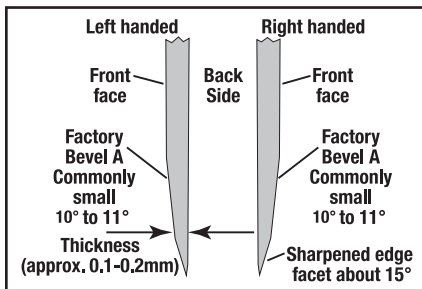
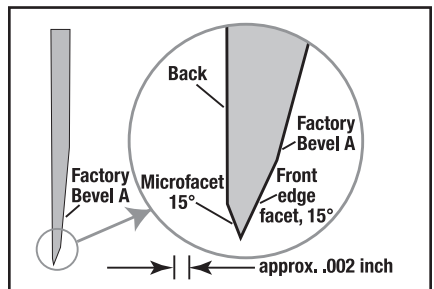

Figure 11. Cross-section of a single beveled traditional Asian blades are thinner and sharpened primarily on one side.
Figure 12. Cross-section of a typical factory traditional Asian knife edge, magnified 50x (right-handed).
Traditional Japanese knives such as the sashimi blade are single sided and have a large factory bevel (Bevel A, Figure 11) on the one side of the blade. There are a large number of manufacturers of knives of this type used widely to prepare sashimi. The factory bevel (Bevel A) is commonly ground at about 10 degrees, but there are exceptions as that angle is not standardized at the factories. Designs of the traditional Japanese knives and the detailed structure of the cutting edges likewise varies widely from one manufacturer to the next, however there are some similarities. The cutting edge consists of a small primary facet on the front face of the blade below the large factory bevel and includes a much smaller secondary microfacet along the back face. Commonly the back side microfacet (Figure 12) can be easily seen only with a hand magnifier. The back face is ground flat at the factory or more commonly it is slightly hollow ground to ensure that an effective microfacet can be formed there as part of the cutting edge. Because of the lack of standardization, commonly, the manual approach is used to sharpen these knives. However, doing so has proven to be difficult, laborious and time consuming. The Chef'sChoice® Model 702 Sharpener is designed to sharpen virtually all traditional, single sided, Asian blades and to create a factory-quality edge.
Before you start to sharpen a traditional Japanese blade, examine it carefully in order to confirm that you have the traditional single bevel blade and to determine whether you have a right or left handed type as described in Figure 11. It is essential that you follow carefully the sharpening procedure and sequence as described below in order to achieve the optimum edge on your traditional blade.
In this example which assumes your traditional blade is right handed, you must sharpen only in the left slot of Stage 1. The number of pulls that you will need to make depends on the factory angle of Bevel A (Figure 11 and 12) and how dull your blade may be. Make five (5) to ten (10) pulls (1-2 seconds per inch) in only the left slot of Stage 1 and then check for a burr along the entire back side of the blade edge. (The burr created in Stage 1 will be small but can be felt as shown in Figure 8). Make certain the burr is present along the entire length of the edge. If there is no burr or only a partial burr, continue to make additional pulls all in the left slot about five (5) at a time and check for a burr after each group of five (5) pulls. In general 10-20 total pulls in the left slot will be adequate to raise a burr; it is unlikely to take more than 20 left slot pulls to create the burr. When a burr is confirmed, proceed to Stage 2 **Stropping/Finish**.